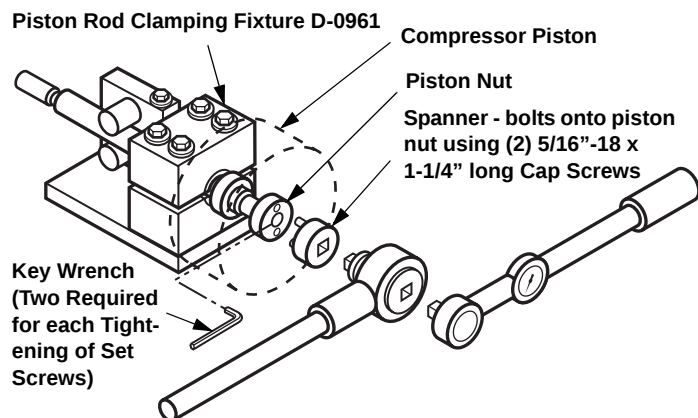

FIGURE 5-21 PISTON AND ROD CLAMPING FIXTURE
5. Clamp the piston rod in Torque Fixture D-0961. See Figure 5-21 on Page 5-28.